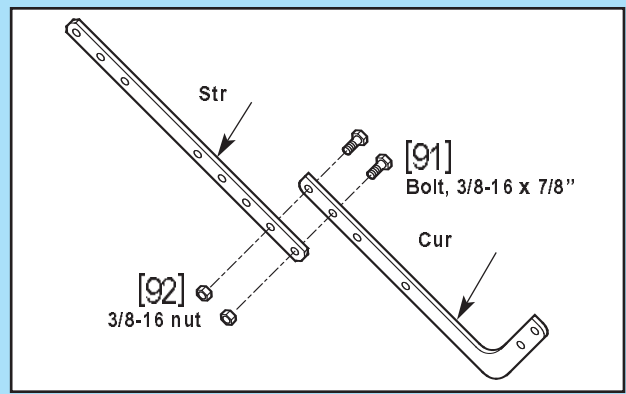
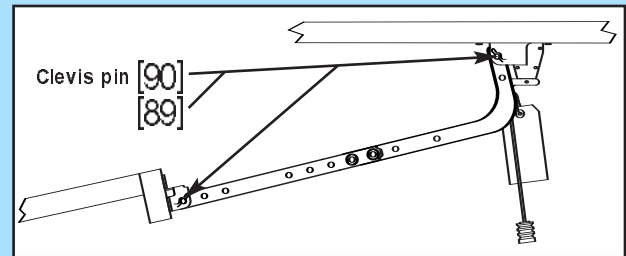

Fig. 2-16
Fig. 2-17
10. Assemble door arms exactly as shown (Fig. 2-16).
- Overlap arms by two (2) holes.
- Install two (2) 3/8" x 7/8" hex bolts, and hex flange nuts.
11. Install assembled door arms (see Fig. 2-17).